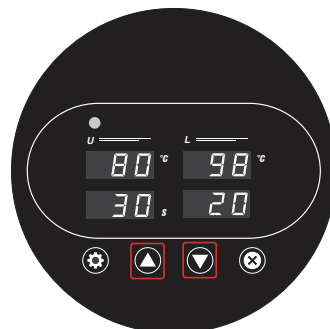

Fig. 4
4. Press Up **(H)** or Down **(I)** buttons to select the desired temperature (Fig. 4). The selected temperature is flashing on the display.